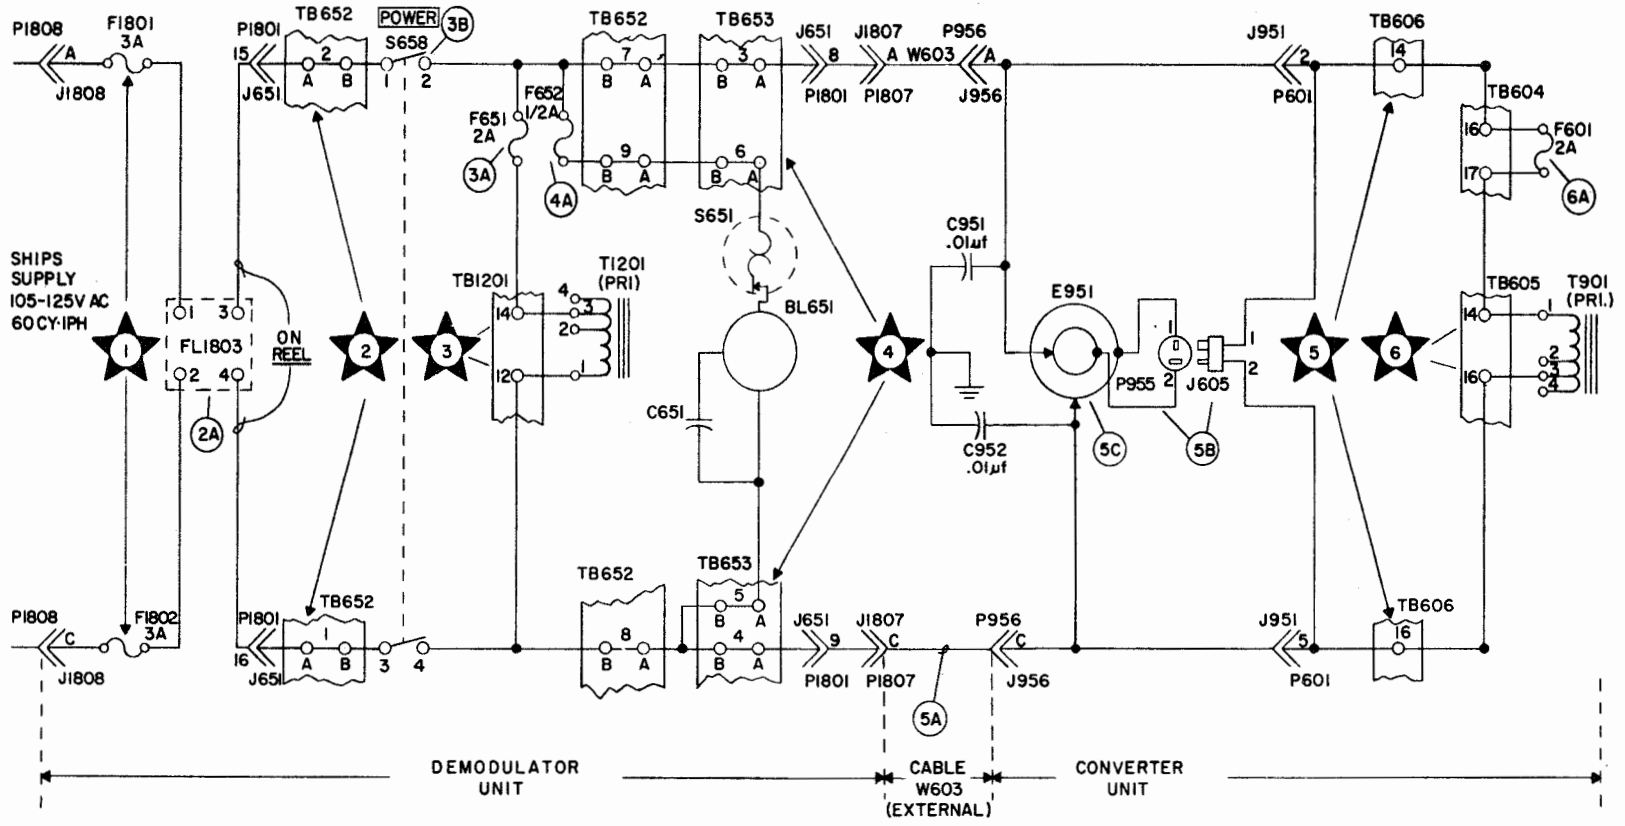

Figure 5-1. Radio Receiving Sets AN/WRR-2 and AN/FRR-59, Power-Distribution Diagram
a. GENERAL.—Figure 5-1 is a power-distribution diagram of the receiver. When tracing the power circuits, make certain that the main power is being supplied.